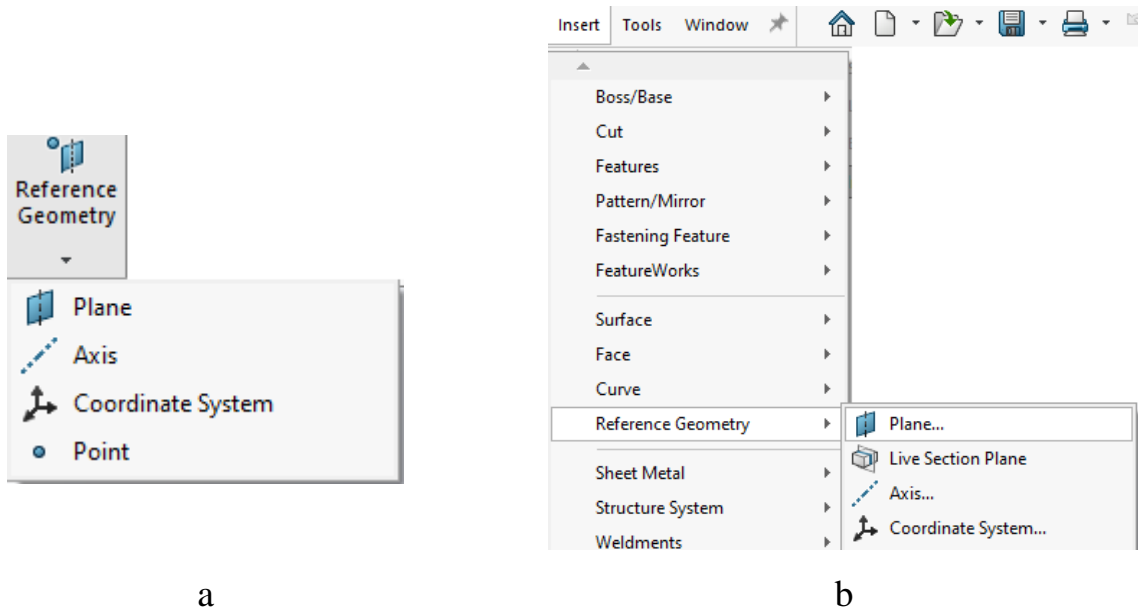
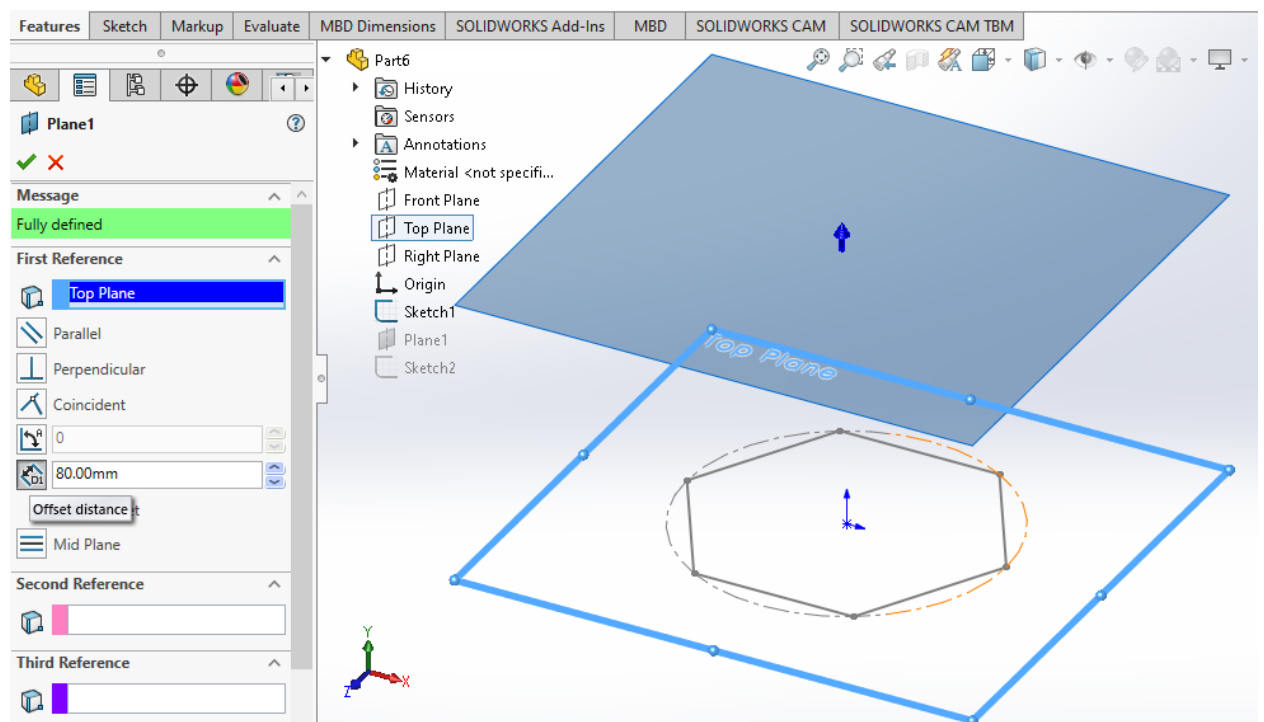

Fig. 3.8
Fig. 3.9
Sketch 1 is constructed in the *Top plane*. The next *Sketch 2* needs to be built in another plane. To do this, we need to create an auxiliary plane parallel to the *Top plane* at a distance equal to the height of the pyramid. To create a new auxiliary plane, press the **Plane** button on the **Reference Geometry** toolbar (fig. 3.8 a) or use the menu command: *Insert / Reference Geometry / Plane* (fig. 3.8 b). After that, the **Plane** window will appear on the screen. In this window, you need to specify the main parameters of the reference plane, providing reference data in the **Selection** section, and select the method of its construction (fig. 3.9):
1. **Offset Distance:** By specifying a distance, you can construct a reference plane parallel to the original plane. In this example, we build a plane parallel to the Top plane, selecting it in the FeatureManager tree and setting the distance to 80 mm (fig. 3.9).